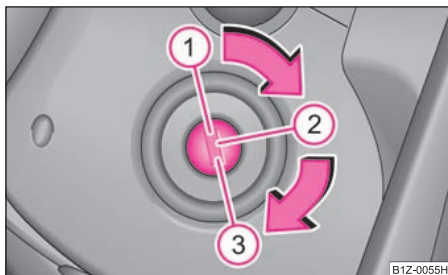

Fig. 105 Ignition lock positions
- The engine can be switched off by turning the ignition key from position ① into ⇒ page 94, fig. 105.